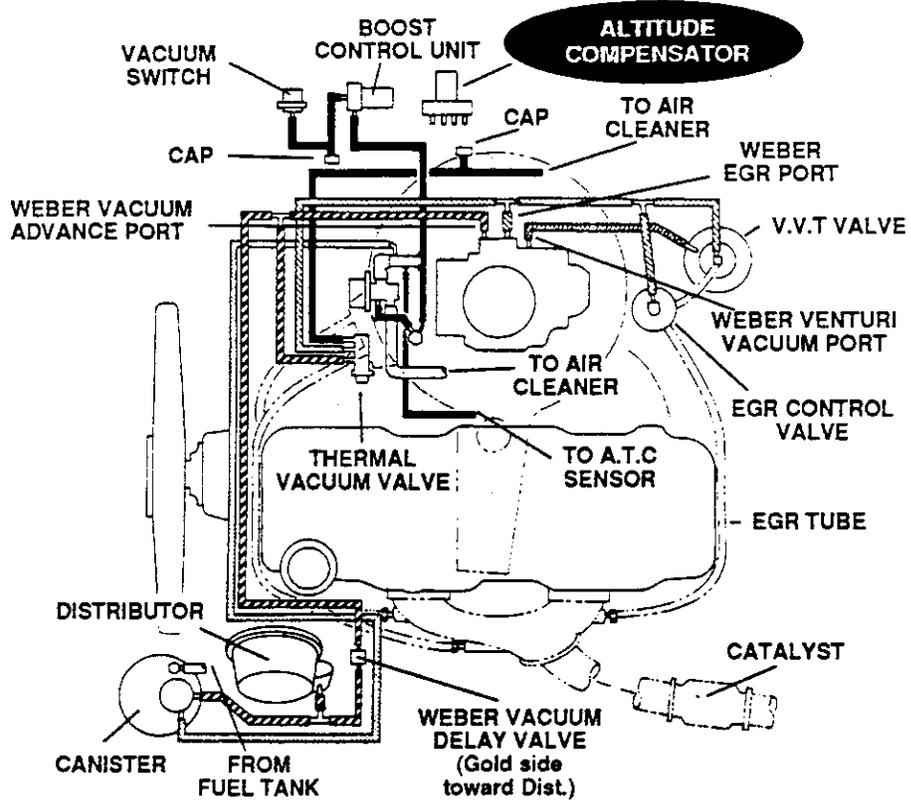

FIG. 5
(NOTE:) Some vehicles have altitude compensation devices which have three (3) vacuum lines connecting the carburetor with a unit mounted on the right inner fender, behind the Boost control unit. The altitude compensator will not be used with this conversion and may be disconnected and removed. All vacuum sources should be capped off. (FIGS. 5 & 6)
24. Using the rubber plugs provided in the kit, cap off the vacuum tees leading to the altitude compensator and Boost Control Unit as shown in FIGS. 5 & 6.